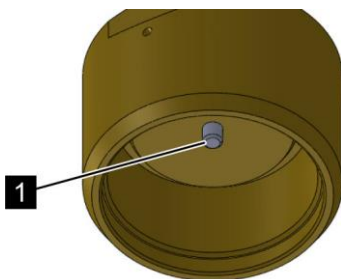

Fig. 157: Release pin
5. ➤ Check whether the release devices of the associated extinguishing agent container/s have been activated, i.e. whether the release pin (Fig. 157/1) protrudes 8.2 ± 0.5 mm (0.315 ± 0.02 inches).